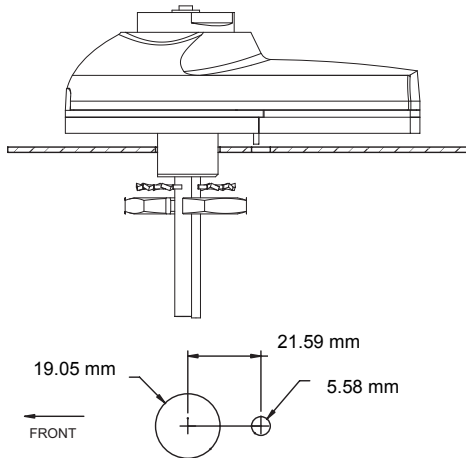

Figure 1. Typical Installation
2. Cut or drill holes through the mounting surface (1.27 cm maximum thickness) sized and positioned as shown in figure 1.